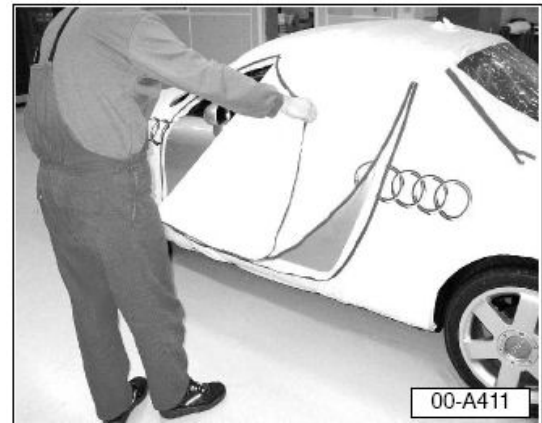

Figure 1. Unzip and fold cover.
1. Unzip and fold cover toward center (Figure 1).